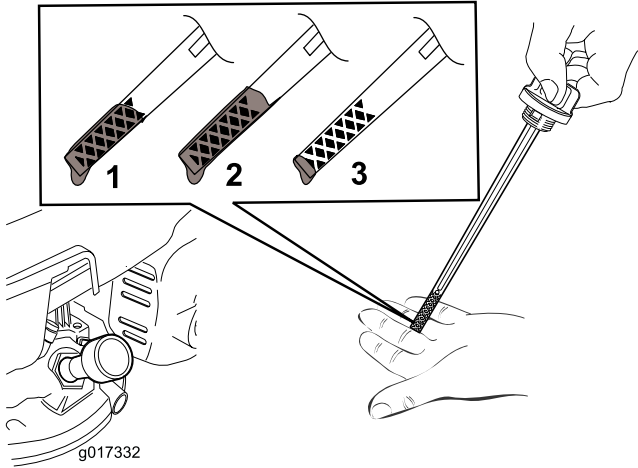

Figure 7
2. Remove the dipstick (Figure 7).
Note: Fill the engine crankcase with oil until the dipstick indicates that the engine-oil level is correct as shown in Figure 7. If you overfill the engine with oil, remove the excess oil as directed in Changing the Engine Oil \(page 16\).